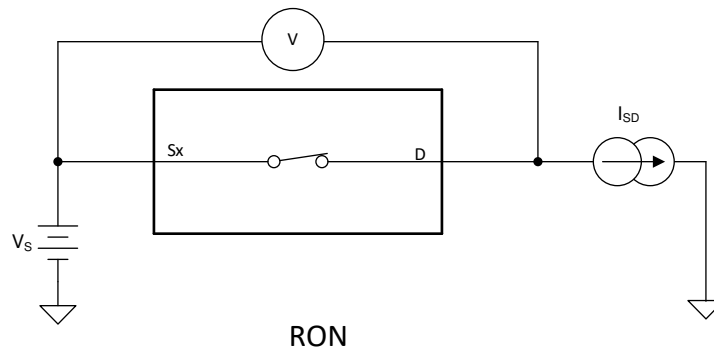

Figure 8-1. On-Resistance Measurement Setup
The on-resistance of a device is the ohmic resistance between the source (Sx) and drain (D) pins of the device. The on-resistance varies with input voltage and supply voltage. The symbol R_{ON} is used to denote on-resistance. Figure 8-1 shows the measurement setup used to measure R_{ON} . Voltage (V) and current (I_{SD}) are measured using this setup, and R_{ON} is computed with $R_{ON} = V / I_{SD}$: